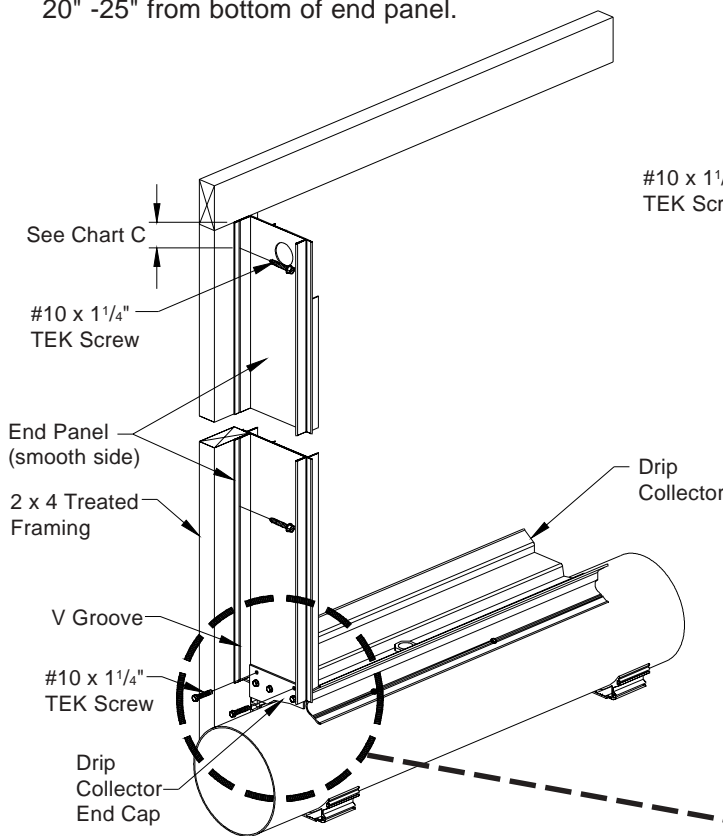

Figure 11D
- 14d) Hold the end panel tightly against the framing and attach end panel to framing using #10 x 1/4" TEK screws (provided), **See Figure 11D. See Chart C** for spacing and number of Lag screws provided.